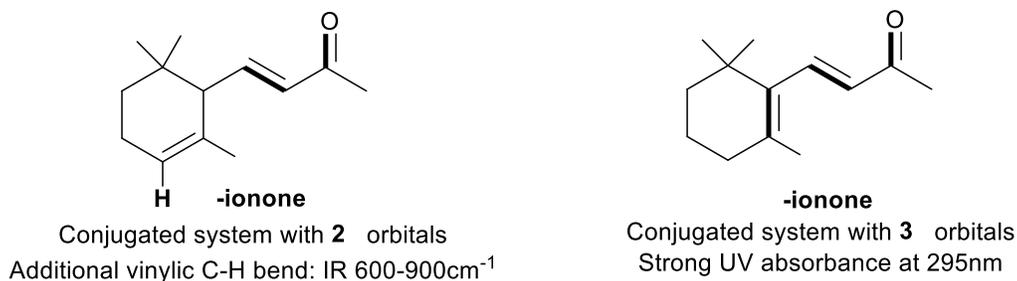

Figure 6. IR and UV-vis characterization of ionones.
The structural differences between the ionone isomers are detected by infrared (IR) and ultraviolet-visible (UV-vis) spectroscopy (**Figure 6**). All forms of spectroscopy take advantage of a molecule's ability to absorb the energy emitted by the instrument (spectrometer or "spec" for short). The remaining transmitted energy is detected by the instrument, reported to the software, and presented to the user as a graph of wavelength (λ , x-axis) vs. intensity (% absorbance or transmittance, y-axis). **IR spectroscopy** is based on the frequency of *stretching and bending of bonds* in organic molecules that fall within the IR range of the electromagnetic spectrum. The IR spectra of both isomers differ in the C-H out-of-plane bending region (600-900 cm^{-1}). α -ionone, because of its extra vinylic hydrogen, presents several bands in this region that are absent in the IR spectrum of β -ionone (**Table 1**). They can also be distinguished by their GC elution order. In columns of medium polarity they come out in order of increasing boiling points.